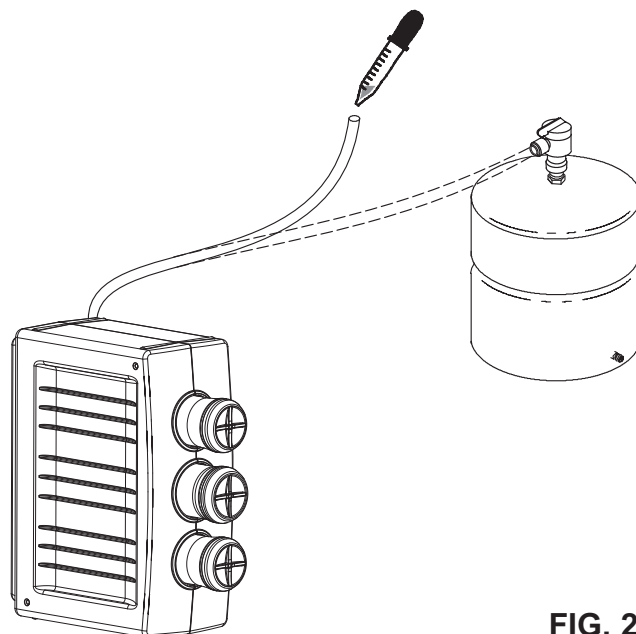

FIG. 22
Sanitizing is recommended immediately after installation of the Reverse Osmosis system. It's also recommended after servicing inner parts. It is important that the person installing or servicing the system have clean hands while handling inner parts of the system. Complete the following steps to sanitize the system. See Fig. 22.
4. Add 3 ml. of bleach into open end of yellow tubing. Handle bleach according to bleach manufacturer's recommendations. See Fig. 22.